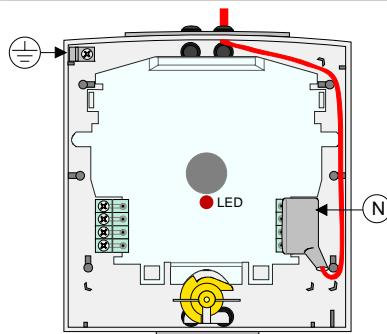

Fig. 7
Terminals: The screw terminals 1-4 and 5-8 can be removed if desired to make the installation procedure easier. Connect the shield of the connection cable to the ground terminal in the upper left corner of the housing base (Fig. 7).
To achieve a higher protection rating from IP 44 to IP 55 cover the terminals with the appropriate protective cap (N) (Part No. 704917). In addition the mounting screws of the detectors enclosure must be fitted with sealing washers. Install inlyng cable with a dripping bend to protect the device from dampness (Fig. 7).